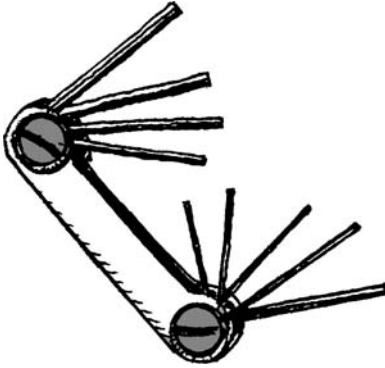

Figure D.4
- Allen wrenches (hex key wrenches)—metric and American (see Figure D.4)